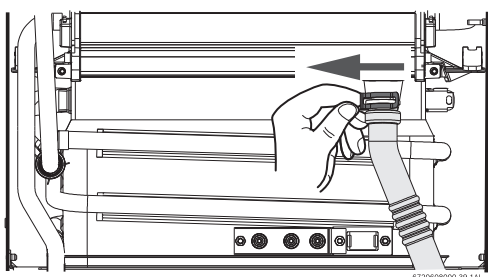

Fig. 36 Disconnect drain tube
- Remove the clip and disconnect the drain tube, see Fig. 36.